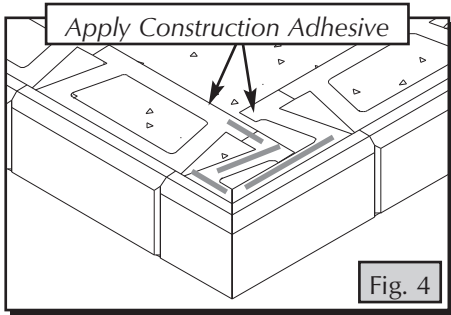

Fig. 4
- Sweep the top of the AB blocks clean and apply 0.25 in. (6.4 mm) bead of construction adhesive along top surface of corner pieces (Fig. 4).